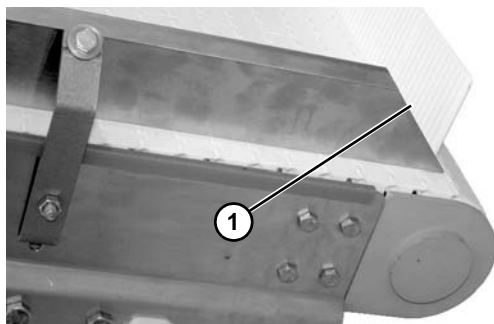

**Figure 21**
- Attach guide (**Figure 21, item 1**) to the mounting brackets with hex bolts and spacers (**Figure 21, item 2**). Hand tighten only at this time.
- Ensure that nose of bracket slips under the lip of guide (**Figure 21, item 3**).